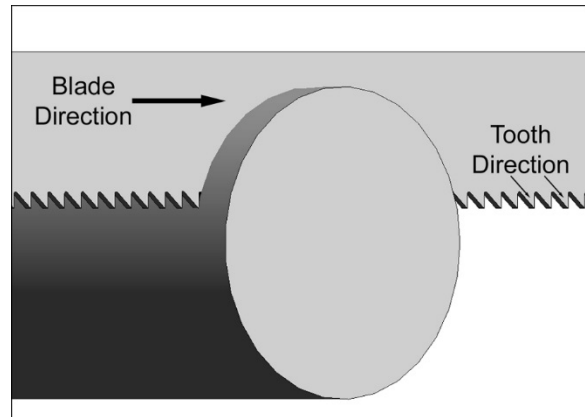

Figure 8-8
6. Install new blade between blade guide assemblies and around each wheel. Make sure blade teeth are pointing in proper direction. See Figure 8-8.